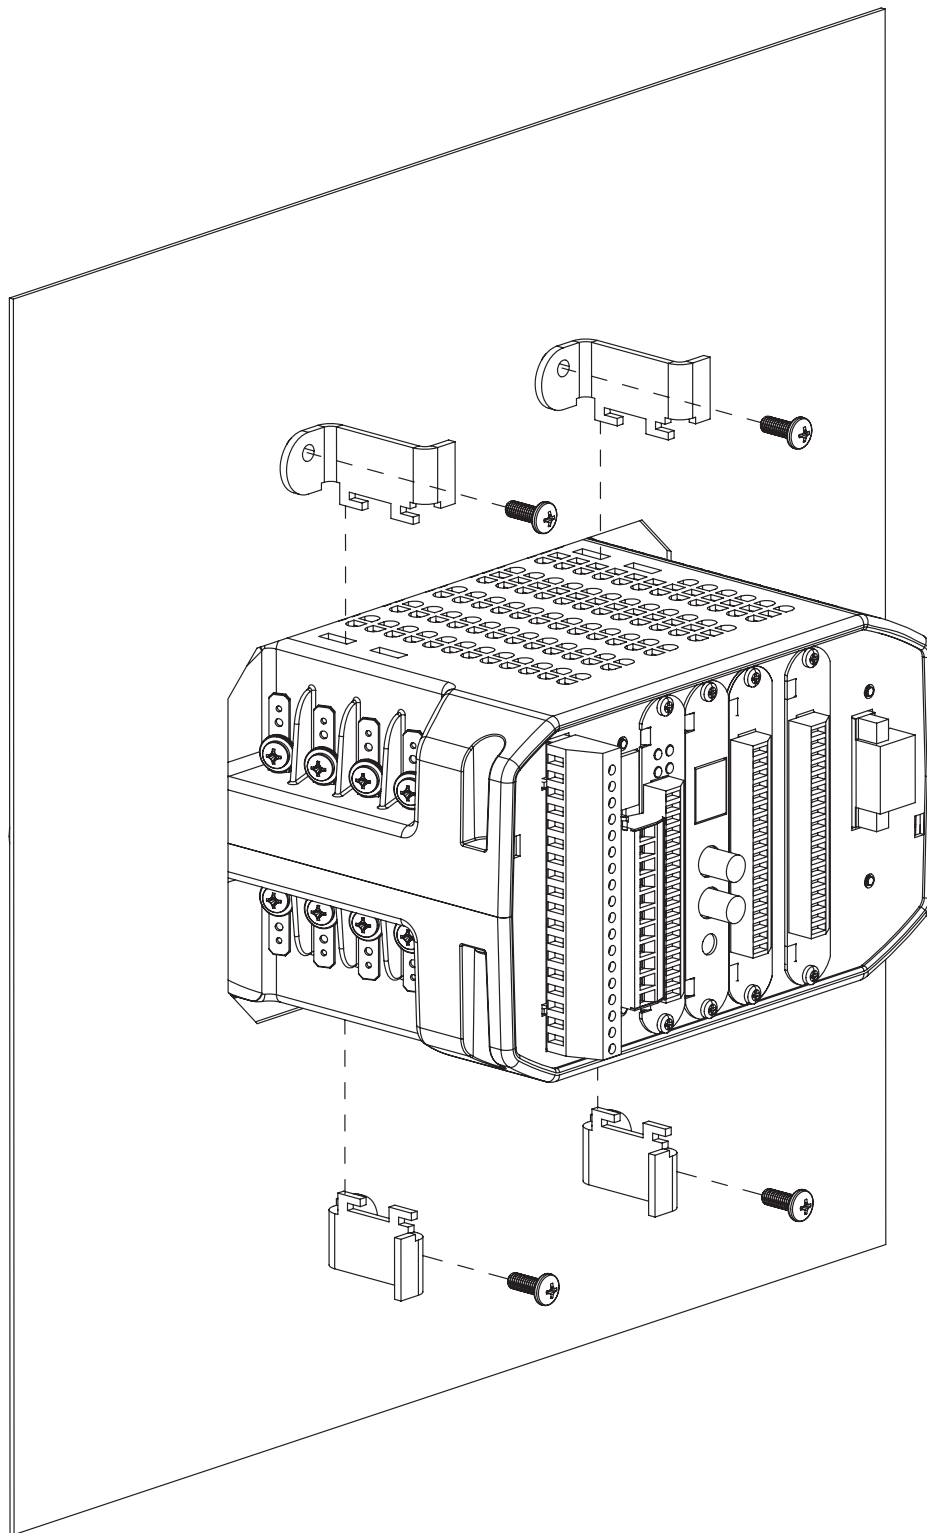

Figure 3.4: Mounting the Meter
4. Secure the meter to the panel with lock washer and a #8 screw in each of the 4 mounting brackets (see Figure 3.4).